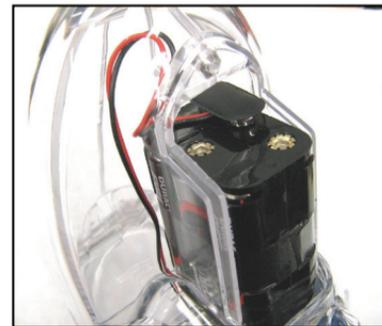

Figure 1
- 1) (Figure 1) The battery wire connector is a 9V-type connector, but 9V batteries do not have sufficient power for the EMPIRE[®]. Only use 6- AA batteries installed in the supplied battery holder.
- 1) If gear box cover was removed, first make sure motor (23) is fully seated into catch cup (17).
- 2) Make sure gear pin (19) is seated in the catch cup, as it may have stayed in the gear box cover. Place pulley gear (24) onto gear pin. Then loop the drive belt o-ring (13) from the motor pulley all the way around the pulley gear.
- 7) (Figure 1) It is very important to reinstall the drive cone properly for correct loader operation. Note the drive tab (e) on the underside of the drive cone (b). The drive tab is used to catch the spring tab (d). With the spring housing (a) and drive spring (c) mounted on the main shaft,
1) (Figure 1) Seat drive assembly back into left side shell. There are 2 tabs on the side of the drive assembly. Be sure that these 2 tabs seat into the slots in the left side shell. Be sure that the sensor wires flow around the side of the drive assembly, and are not in front of the bottom rear hole in the shell, otherwise the body screw will destroy these wires. For ease of reassembly, tape motor/battery wires down onto the upper feed neck cover as shown.